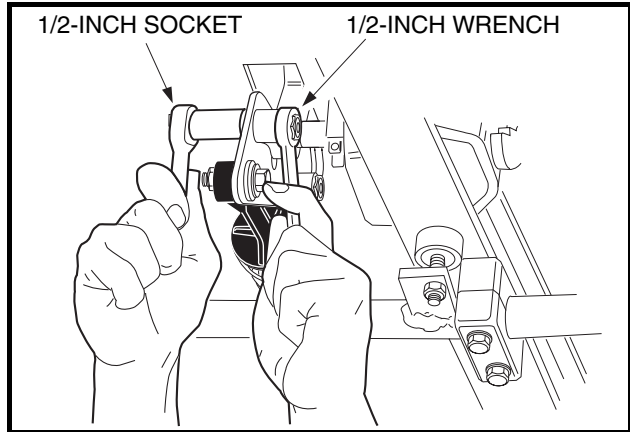
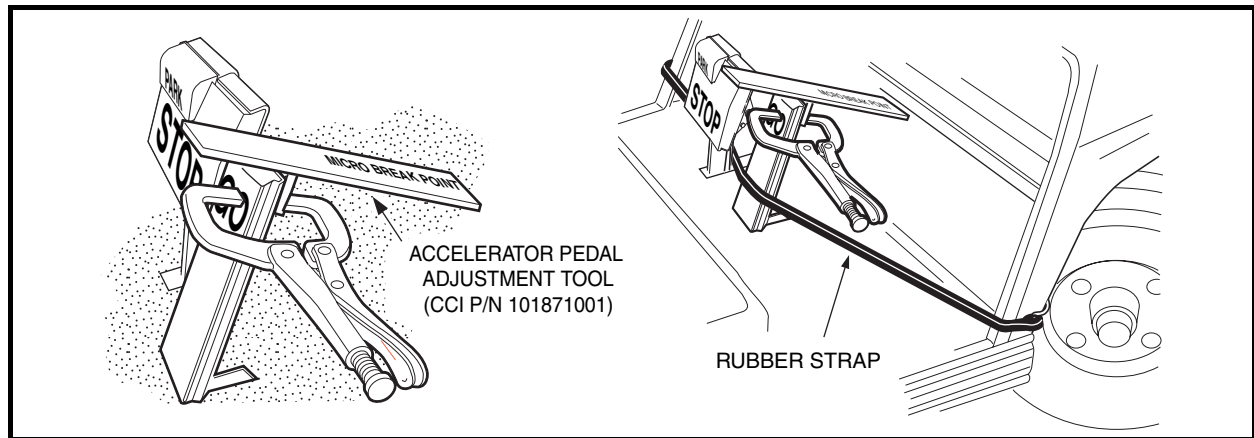

Figure 5-17 Accelerator Pedal Height Adjustment
Figure 5-18 Accelerator Pedal Height Adjustment
- 4.1. Loosen the nut and bolt (**Figure 5-17, Page 5-14**) securing the accelerator pedal to the pivot plate. Clamp the accelerator pedal adjustment tool (CCI P/N 101871001) to the accelerator pedal, with the end marked *accelerator pedal height* closest to the floorboard. Press the accelerator pedal until the end of the tool rests against the floorboard; pedal height should be 5-5/8 inches (14.3 cm). Use a rubber strap to hold pedal in position against the floorboard and then tighten nut to 26 ft-lb (35.3 N·m) (**Figure 5-18, Page 5-14**).